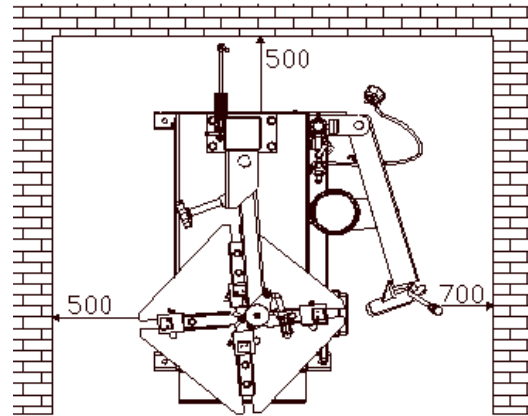

FIG2
The operation space around the machine will not smaller than the indicated in FIG2
3.2.1 After un-package the package carton, take out accessory boxes (FIG 4-2), and column assembly (FIG 4-1). And position the body according to the FIG2. Remove the bolt (FIG 4-3), elastic washer and plate washer on the body.